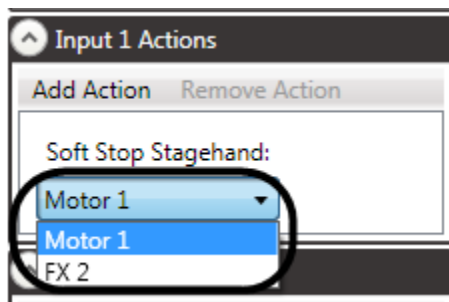

Figure 191
4. From the **Soft Stop Stagehand** drop down menu, select the FX or Motor that should be soft stopped when the FX Input is closed (Figure 191).